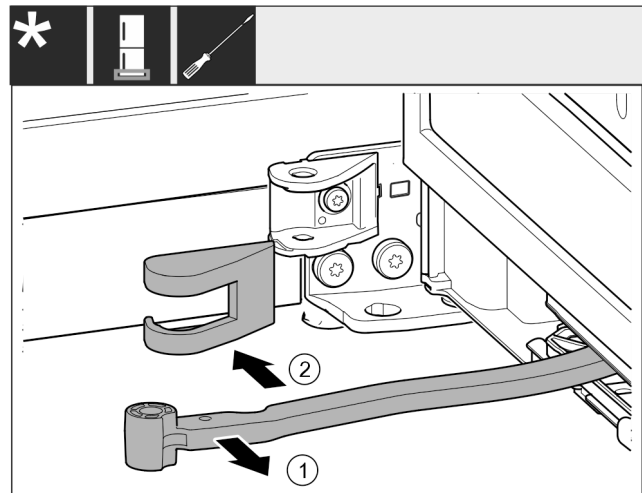

Fig. 17
- Turn the joint *Fig. 17 (1)* towards the door.
- Remove the swap bearing block cover *Fig. 17 (2)*.